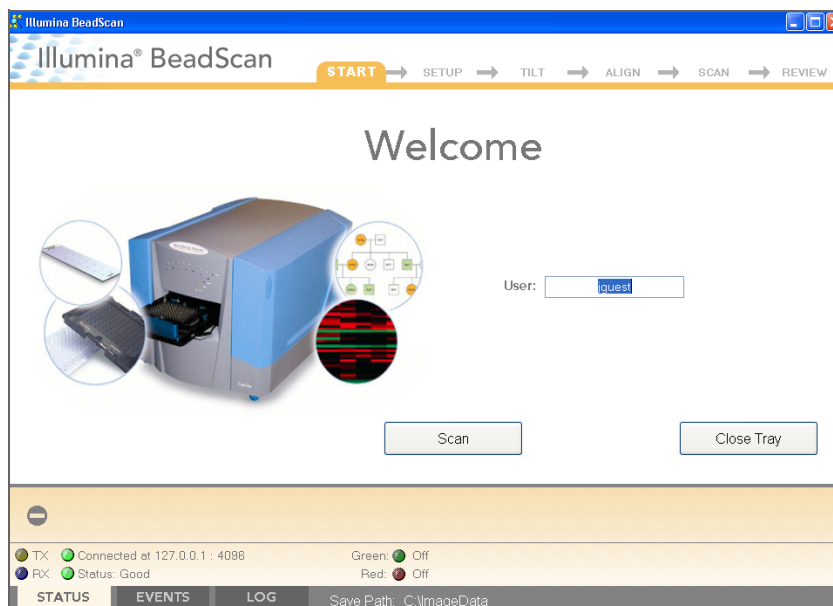

Figure 190 BeadScan Welcome Screen
4. Log in and click **Scan** (Figure 190).